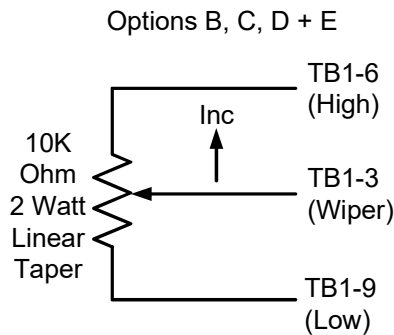

Figure 3 – Potentiometer
2. For B, C, D & E the potentiometer is connected to TB1 -3, -6 & -9. (Fig 3)